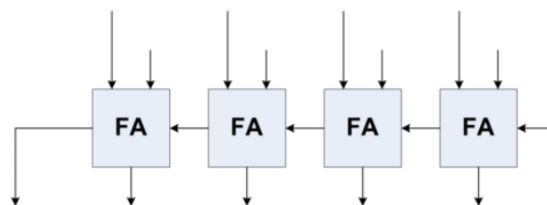

Figure 3: Ripple Carry Adder
3. Design your RCA module so that it contains 4 FA circuits as shown in Figure 3. Ensure that your design works correctly.
2. Design your RCA module similarly to the previous step. But this time, use **generate-for** statement and **SIZE** parameter to come up with a rule to connect multiple FA's, using Figure 3. How many FA's used should be solely determined by **SIZE** parameter. **generate-for statement** must make the proper connections automatically.